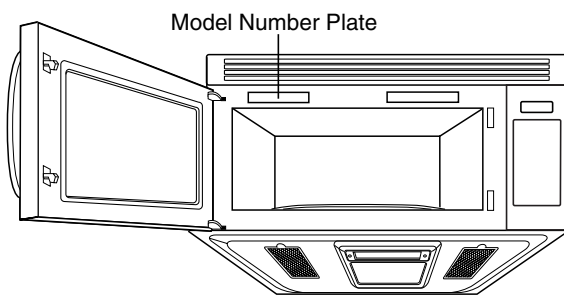
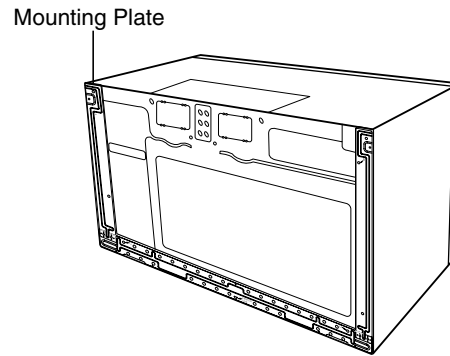

Figure 1
Figure 2
- Read the entire manual before you begin. The model number label is located on the oven front. See Figure 1. The mounting plate is located on back side of microwave oven. See Figure 2.